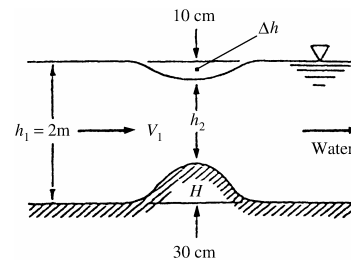

Fig. P3.175
3.175 If the approach velocity is not too high, a hump in the bottom of a water channel causes a dip Δh in the water level, which can serve as a flow measurement. If, as shown in Fig. P3.175, $\Delta h = 10$ cm when the bump is 30 cm high, what is the volume flow Q per unit width, assuming no losses? In general, is Δh proportional to Q ?